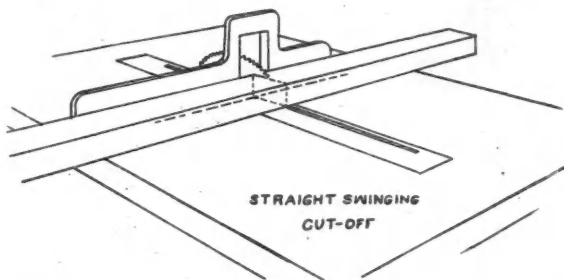

Fig. 2. Squaring Off Ends on Power Saw—Table Level, Gauge Square.
24. At a distance of 4 courses below the bottom of the joists, corbel out the tops of the pilasters as detailed by using three full headers placed together. Upon these headers place lengths of 2 inches by 6 inches laid flat as shown. Lengths of 2 inches by 4 inches, projecting the proper distance from the wall, may be used instead of pieces of 2 inches by 6 inches. These wood pieces should have a 4-inch bearing at each end of the pilasters, leaving 4 inches of brickwork between the ends of the pieces. The wood pieces are supported by brick "shims" to make the top come level with the top of the brick in the course. Upon this wood member is laid a "Flemish header course" 8 inches thick, as shown. (Fig. 2.)